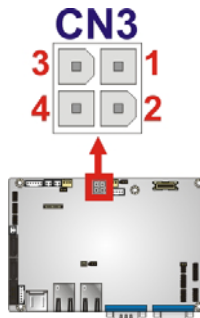

Figure 3-14: LED and +5 V Power Output Connector Location
- CN Location:** See **Figure 3-14**